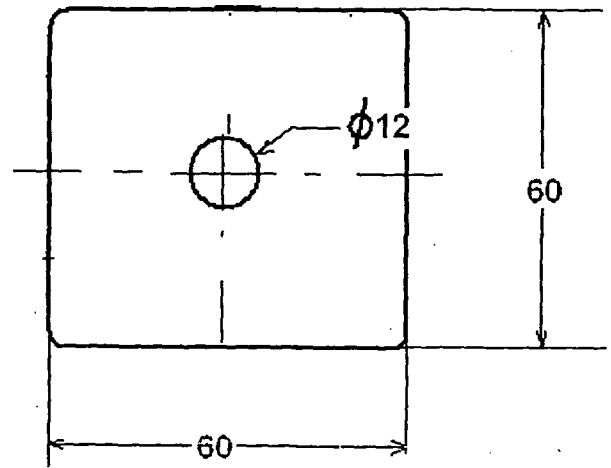

Fig. 14.a
14.a Design and draw 2 views of a compound Blanking and piercing die for the component shown in Fig. 14.a. The sheet metal is of 16 gauge thickness. The sheet is made of Cold Rolled Steel of Ultimate tensile Strength  $580 \text{ N/mm}^2$ .